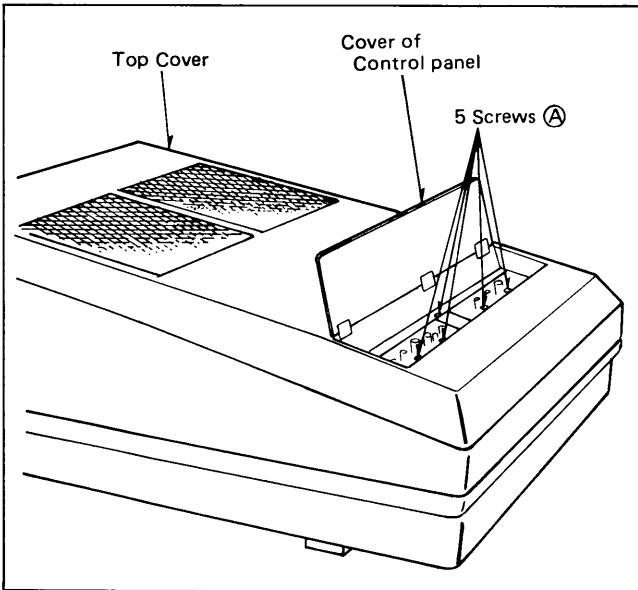

Fig. 2
- 2) Remove 5 screws (A) as shown in Fig. 2.